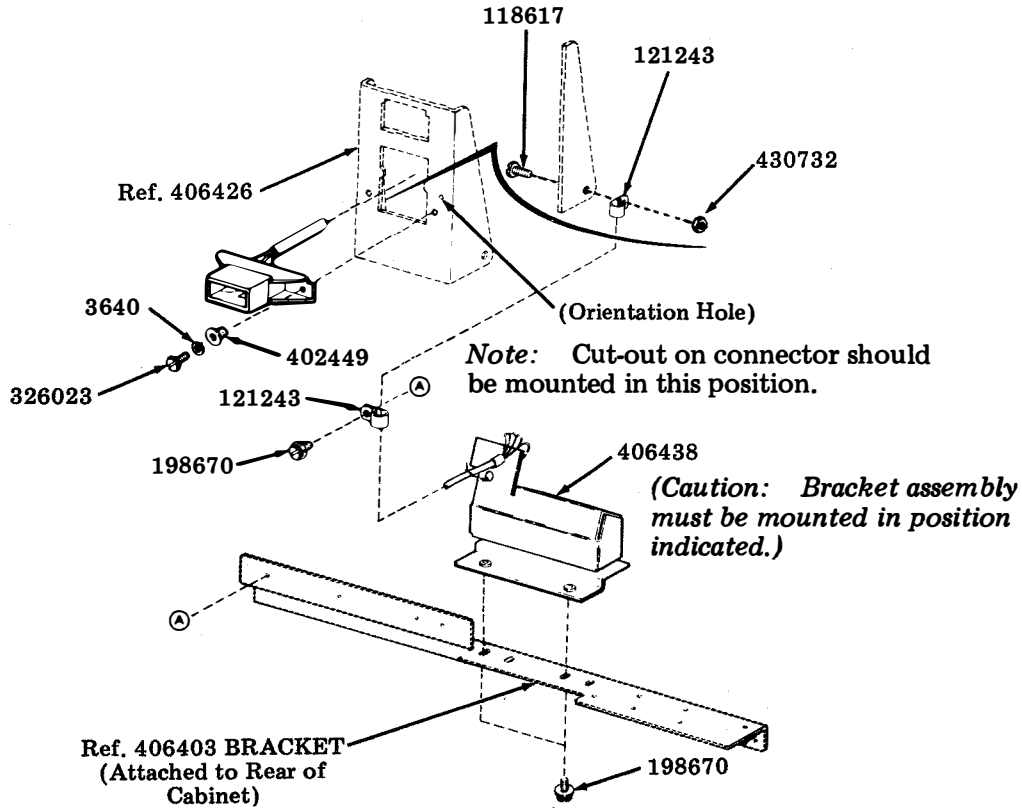
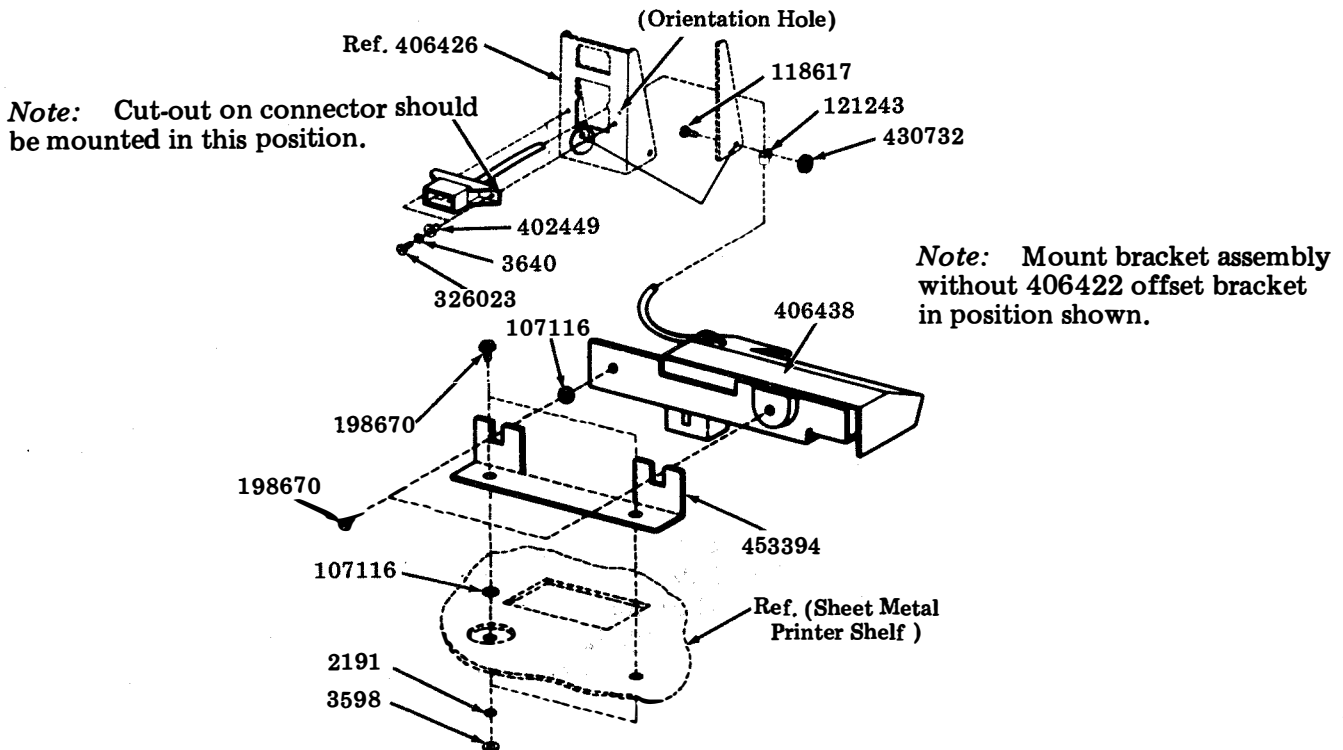

Fig. 1 - Early Design
Fig. 2 - Late Design
3.01 Installation of 406370 modification kit into a 40CAB302/ZZ cabinet can be done by following Fig. 1 or Fig. 2.
3.02 Fig. 1 is for early design cabinet application and Fig. 2 is for later design application. Brackets used and quantity of hardware required vary according to application.
Note: Parts included in 406370 modification kit that are not shown in Fig. 1 or Fig. 2 are not required.